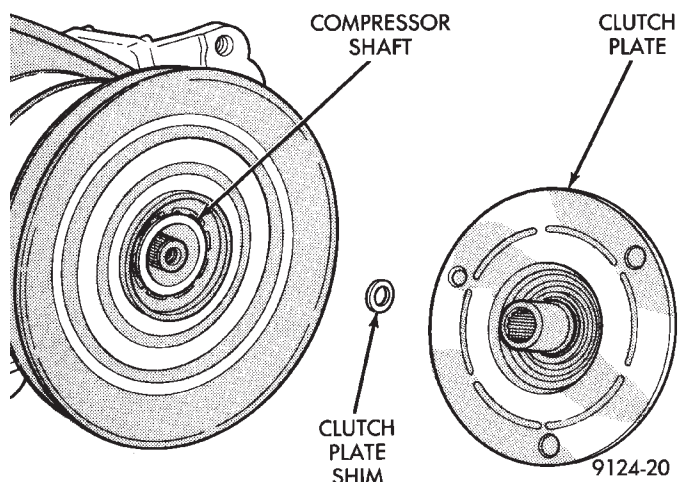

Fig. 2 Clutch Plate and Shim(s)
- (2) Tap the clutch plate with a plastic hammer and remove clutch plate and shim (Fig. 2).